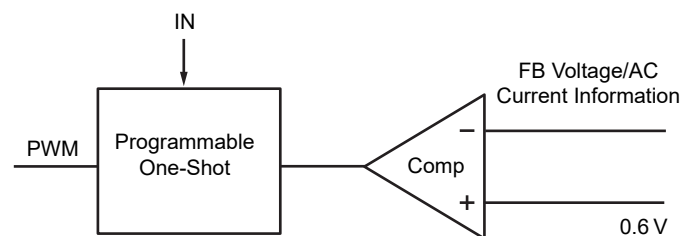

Figure 2. Simplified Control Schematic of AOZ2153LQI-30
The control algorithm of AOZ2153LQI-30 is constant-on-time PWM control with input feed-forward. The simplified control schematic is shown in Figure 2. The high-side switch on-time is determined solely by a one-shot whose pulse width is inversely proportional to input voltage (IN). The one-shot is triggered when the internal 0.6V is higher than the combined information of FB voltage and the AC current information of inductor, which is processed and obtained through the sensed low-side MOSFET current once it turns-on. The added AC current information can help the stability of constant-on time control even with pure ceramic output capacitors, which have very low ESR. The AC current information has no DC offset, which does not cause offset with output load change, which is fundamentally different from other  $V^2$  constant-on time control schemes.